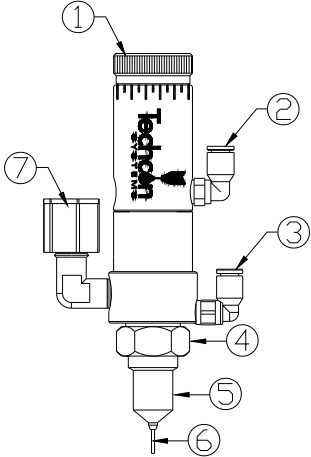

Figure 2.0
5. OPERATING INSTRUCTIONS (Refer to Figure 2.0)